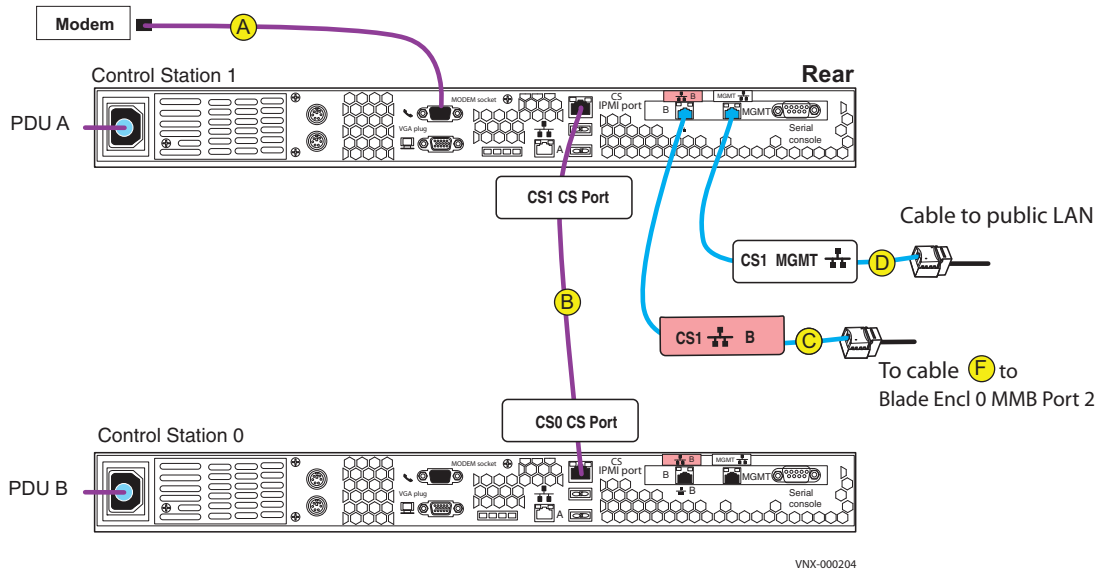

Figure 18 Cabling CS1 to modem and public LAN
2. Connect CS1 to the customer modem, if applicable as shown in Figure 18. **(A)**